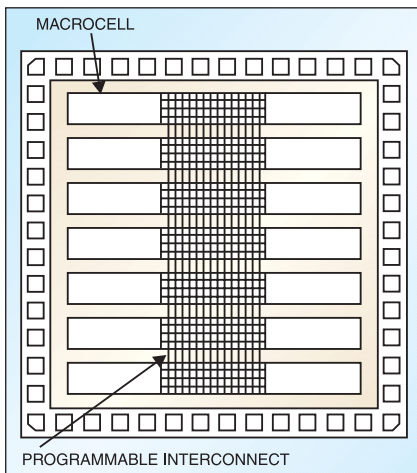

Fig. 4: A programmable logic device (PLD) die
- A PLD die is shown in Fig. 4.